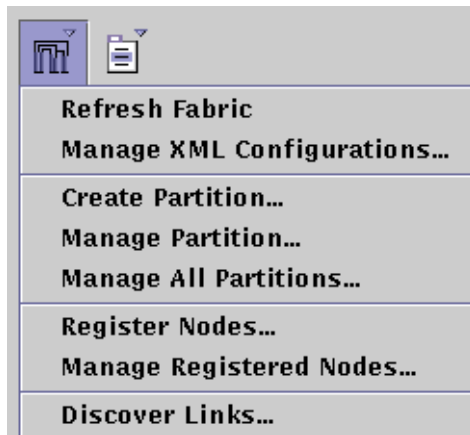

FIGURE 8-1 Fabric Menu Showing Discover Links Choice
4. Select the Fabric --> Discover Links command. See FIGURE 8-1.